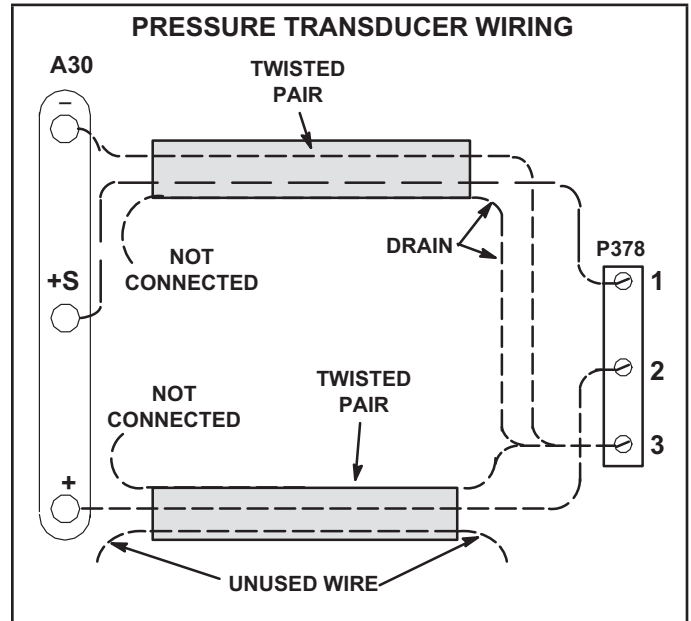

FIGURE 49
- 2 - Two twisted pairs of shielded cable must be used to connect the pressure transducer. See FIGURE 49. J/P378 connector is hanging in the control box.